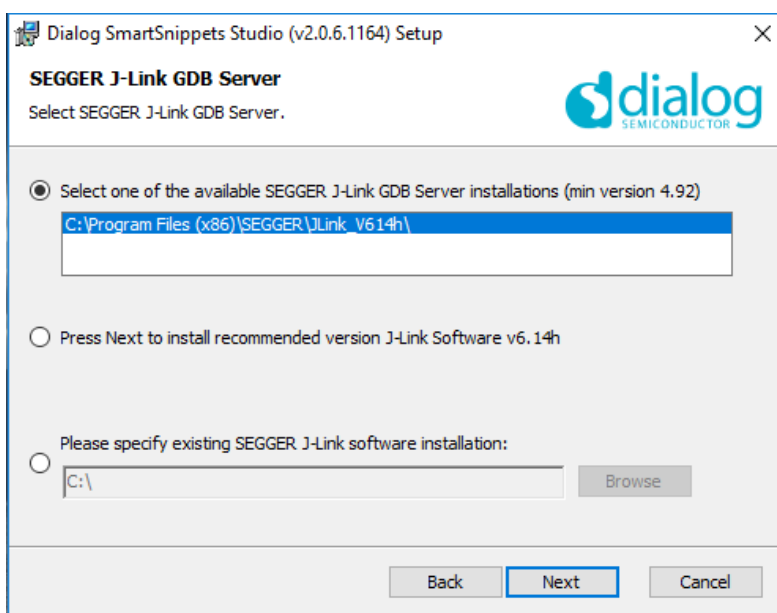

Figure 2: Use Pre-Existing J-Link
3. Select the already installed version of SEGGER J-Link GDB server or install the latest version (Figure 2) and click "Next".